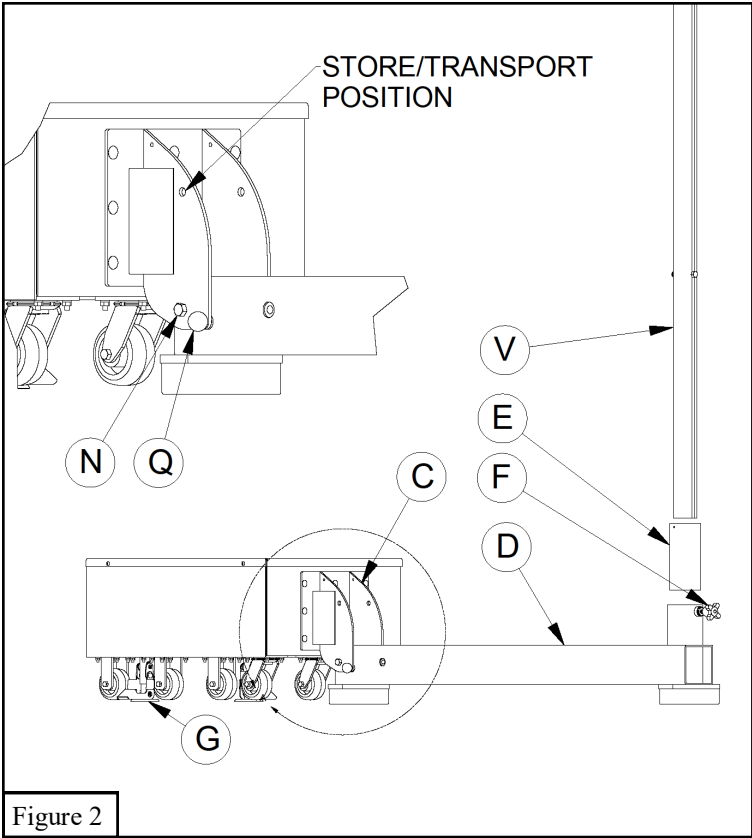
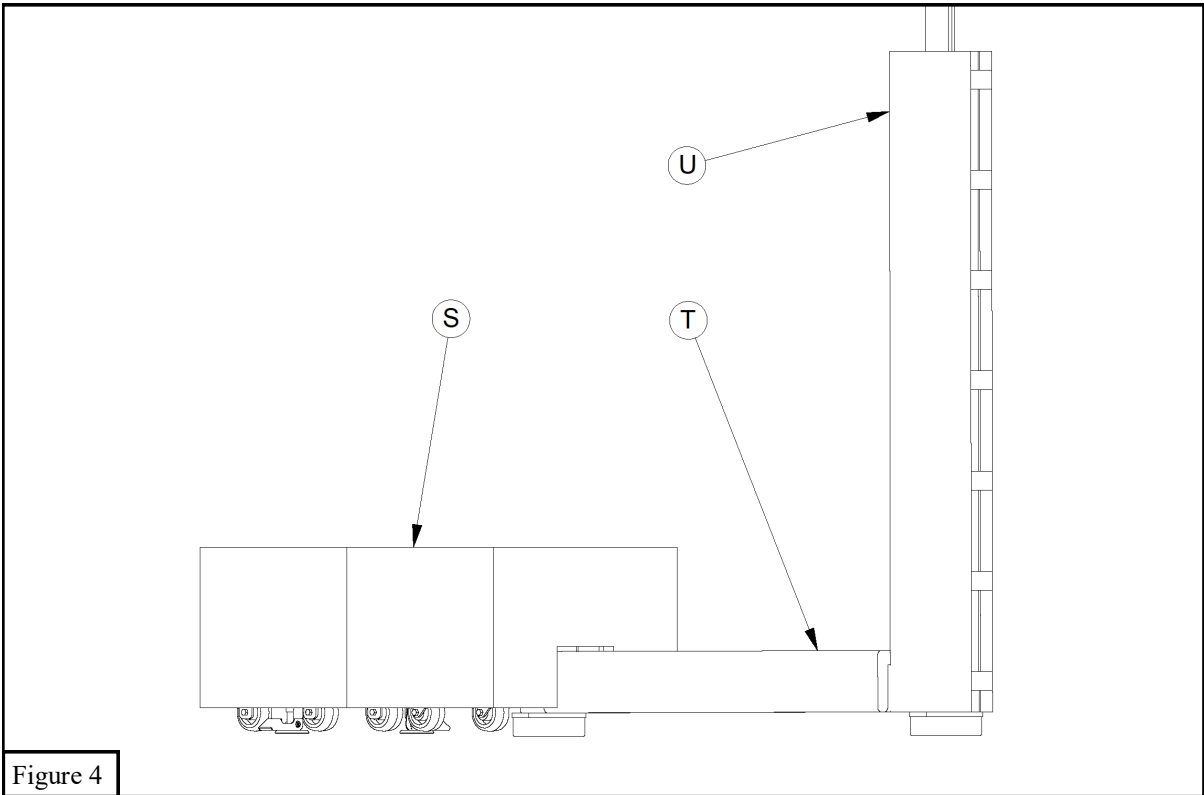

Figure 2
Figure 4
5. Use $1/2"$ X $6 1/2"$ Hex Bolt (N) and $1/2"$ Lock Nut (O) (not shown) to attach Extension Tube (D) to Pivot Bracket (C). Do not overtighten, make sure Extension Tube (D) rotates freely. See Figure 2.
6. Lock Pin (Q) is used to stabilize Extension Tube (D) during play and secure Extension Tube (D) during transport. See Figures 2 and 3.
7. Install Adapter Socket (E) into socket on Extension Tube (D)
8. Insert Volleyball Post (V) into Adapter Socket (E) and tighten Lock Knob (F) to retain Volleyball Post (V) securely in the socket on Extension Tube (D)
9. Follow instructions provided with the Volleyball Posts (V) for Volleyball Net (W) attachment and Volleyball Net (W) height adjustment.
10. Install 2 Piece Base Pad (S) on Base (A), Extension Tube Pad (T) on Extension Tube (D) and Pole Pad (U) onto Volleyball Post (V). See Figure 4.